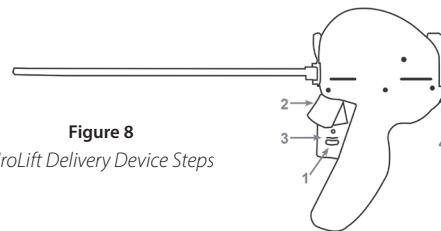

Figure 8
- 6.1 Unlock the Needle Safety Lock (**Step 1, Figure 8**).
- 6.2 Lightly depress *only* the Needle Trigger to deploy the needle (**Step 2, Figure 8**). The UroLift System needle extends 33 mm, which is sufficient to reliably access the prostatic capsule based on cadaver and clinical studies.
- 6.3 After the needle is fully deployed, depress the Retraction Lever (**Step 3, Figure 8**) fully to retract needle and deploy Capsular Tab. Squeeze the Retraction Lever again to ensure complete retraction. By this action, the Capsular Tab is delivered from the tip of the extended needle and is then tensioned back towards the prostatic capsule until it seats on the capsular surface. The needle is now in the retracted (not exposed) position and is contained within the Delivery Device. If complete retraction is not achieved, follow Step 8.1 to manually release the Retraction Lever.
⚠ CAUTION: Avoid contact with the Urethral Release (**Step 4, Figure 8**) button when depressing the Retraction Lever. Contact with the Urethral Release button while depressing the Retraction Lever may result in inadvertent deployment of the Urethral End-Piece and unintentionally cutting the suture.
- 6.5 Press the Urethral Release button toward the telescope (**Step 4, Figure 8**) to deploy Urethral End-Piece and cut the excess suture. After the Urethral Release button is pressed, the complete implant has been deployed. If the suture is not fully cut after pressing the Urethral Release button, follow Step 8.2 to manually cut the suture. No further implants can be delivered using the same Delivery Device.